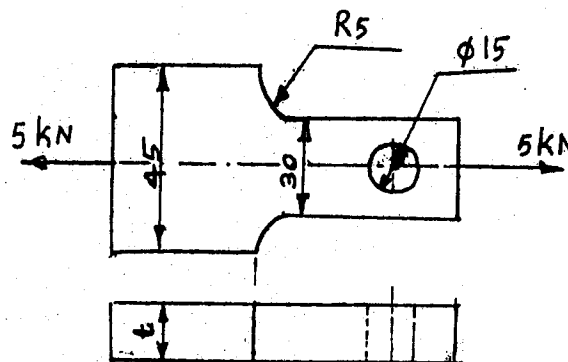

Fig.Q2(b)
- b. A flat plate subjected to a tensile force of 5 kN is shown in Fig.Q2(b). The plate material is grey cast iron having σ_u value of 200 MPa. Determine the thickness of the plate. Factor of safety is 2.5 (08 Marks)